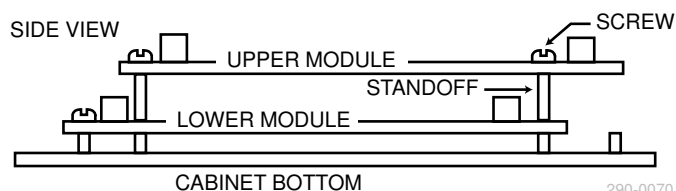

Figure 2: Mounting in stacked configuration
2. To mount a second LCU above another, add four standoffs at the offset mounting positions through the bottom module and secure the upper module to these standoffs with screws. See Figure 2.